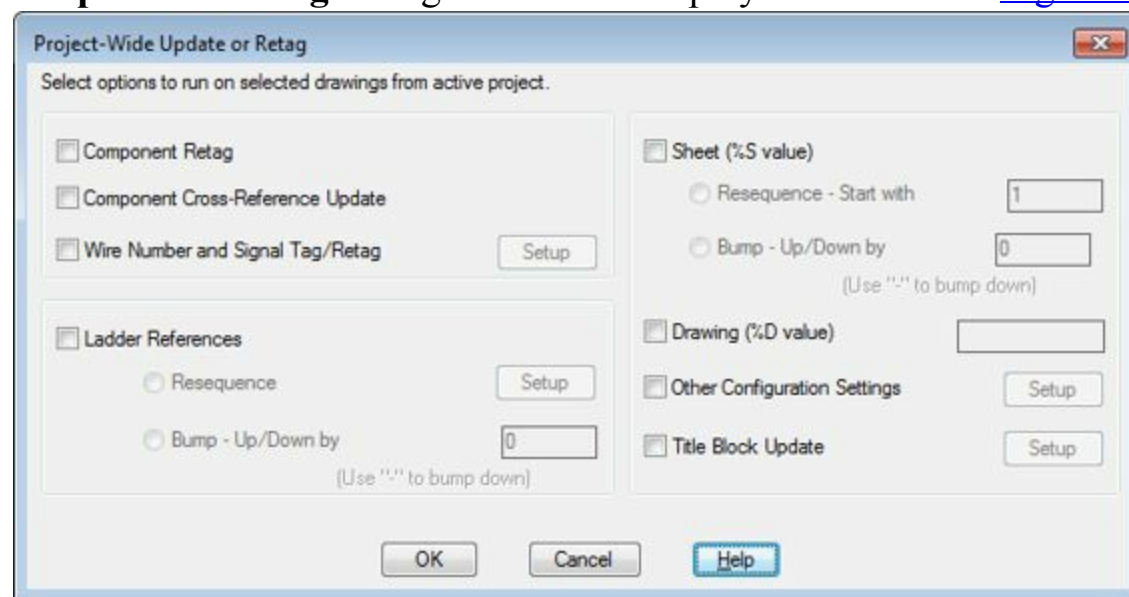

Figure-25. Project Wide Update or Retag
- Click on the **Project Wide Update/Retag** button from the **Project Manager**. The **Project-Wide Update or Retag** dialog box will be displayed as shown in Figure-25.